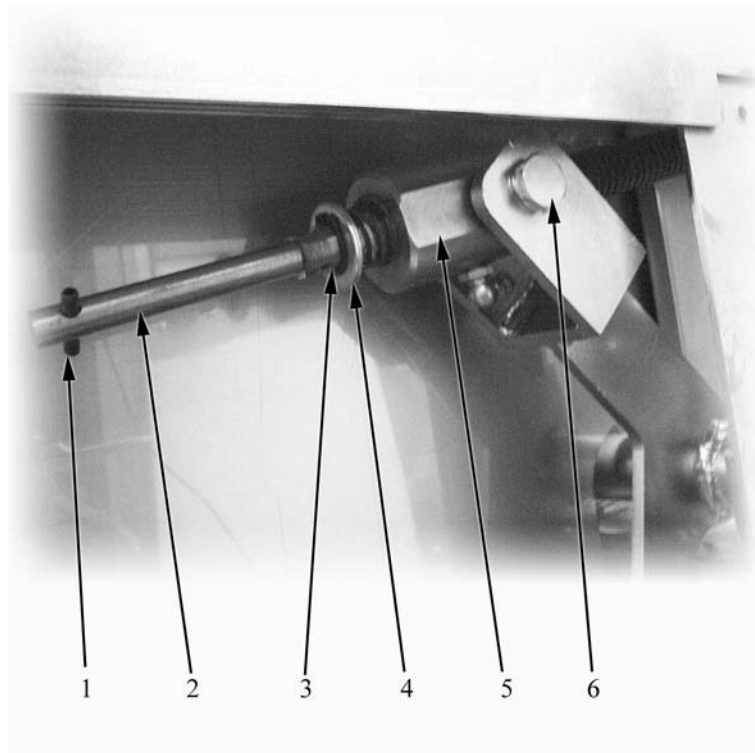

Fig. 25
- take off the plug (item 1 in Fig. 25) from the rod (item 2 in Fig. 25);
- remove the Seger ring (item 3 in Fig. 25);
- remove the washer (item 4 in Fig. 25);
- unscrew the fixing screws of the trapezoidal female screw (item 6 in Fig. 25);
- unscrew the trapezoidal female screw from the lifting rod (item 5 in Fig. 25);